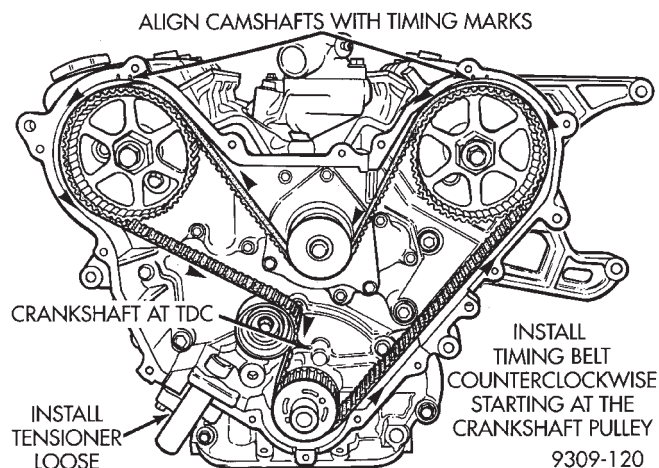

Fig. 6 Timing Belt Installation
- (1) Mark belt running direction for installation.
- (2) Align the camshaft sprockets with marks on rear covers before timing belt is removed (Fig. 6).
- (1) Align the crankshaft sprocket with the TDC mark on oil pump cover (Fig. 6).
(2) Align the camshaft sprockets between the marks on the covers (Fig. 6).
(3) Install the timing belt starting at the crankshaft sprocket going in a counterclockwise direction (Fig. 6). After the belt is installed on the right sprocket keep tension on the belt until it is past the tensioner pulley.
(4) Holding the tensioner pulley against the belt, Install the tensioner into the housing and tighten to 28 N•m (250 in. lbs.).
(5) When tensioner is in place pull retaining pin to allow the tensioner to extend to the pulley bracket.
(6) Rotate crankshaft sprocket 2 revolutions and check the timing marks on the camshafts and crankshaft. The marks should line up within their respective locations (Fig. 6). If marks do not line up repeat procedure.